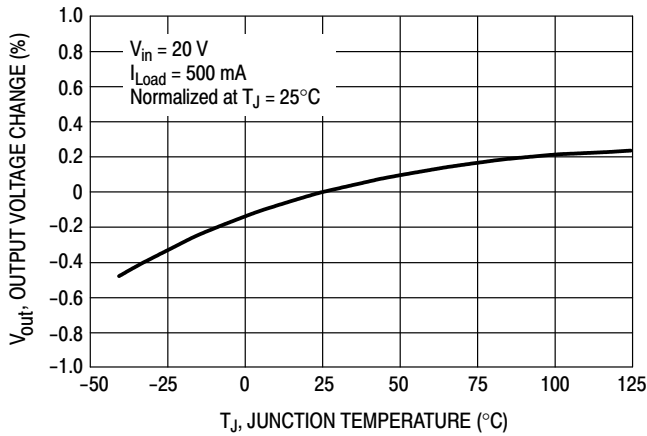

Figure 2. Normalized Output Voltage
1. Programming Output Voltage To select the right programming resistor R1 and R2 value (see Figure 2) use the following formula: $V_{out} = V_{ref} \left(1.0 + \frac{R2}{R1} \right) \text{ where } V_{ref} = 1.23 \text{ V}$ Resistor R1 can be between 1.0 k and 5.0 k Ω . (For best temperature coefficient and stability with time, use 1% metal film resistors). $R2 = R1 \left(\frac{V_{out}}{V_{ref}} - 1.0 \right)$	1. Programming Output Voltage (selecting R1 and R2) Select R1 and R2: $V_{out} = 1.23 \left(1.0 + \frac{R2}{R1} \right) \text{ Select } R1 = 1.8 \text{ k}\Omega$ $R2 = R1 \left(\frac{V_{out}}{V_{ref}} - 1.0 \right) = 1.8 \text{ k} \left(\frac{8.0 \text{ V}}{1.23 \text{ V}} - 1.0 \right)$ $R2 = 9.91 \text{ k}\Omega$, choose a 9.88 k metal film resistor.